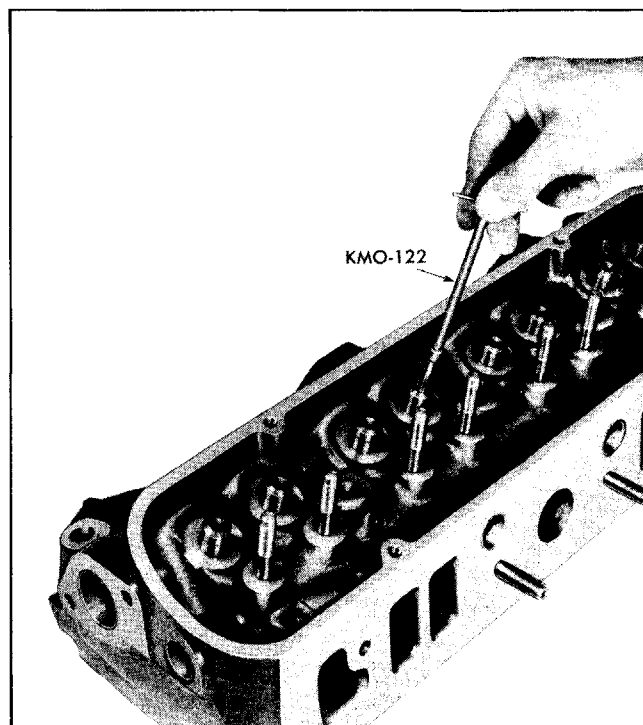

Fig. 6-37 Cleaning Valve Guide
5. Clean valve guides thoroughly using Valve Guide Cleaner KMO-122 (Fig. 6-37).